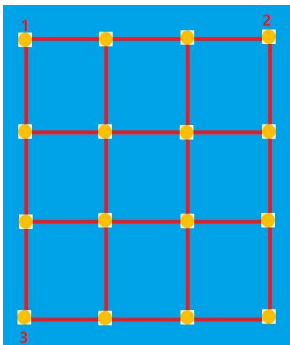
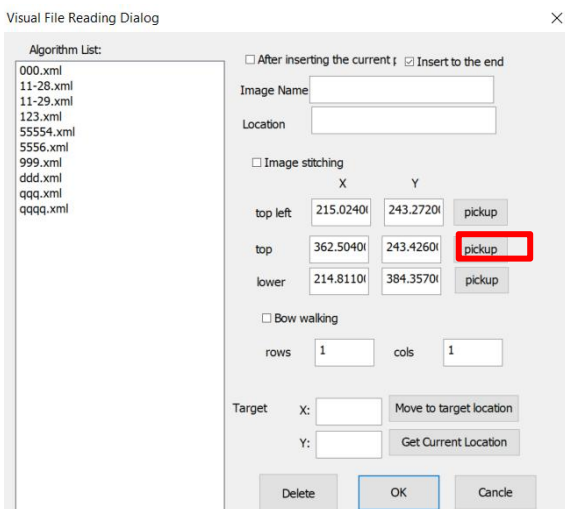
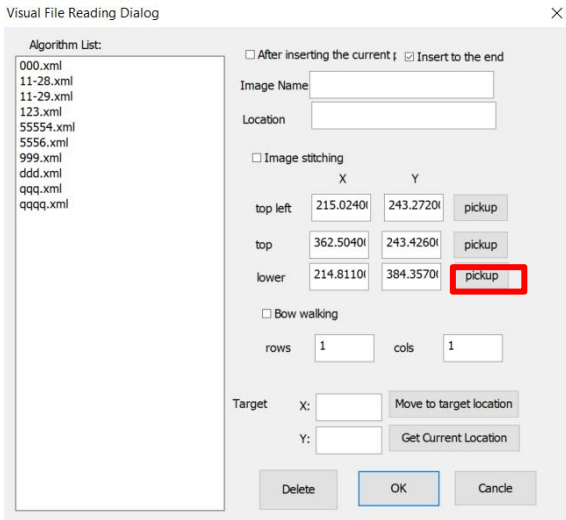

Figure2-6
Figure 2-8
Figure 2-9
When the points to be traveled are in array shape (i.e., similar rows with the same spacing and columns with the same spacing), use this way to create the CNC process as shown in Figure 2-6 below (4 rows and 4 columns):
Step 2: Move to the upper left corner position of the target, such as position 1 in Figure 2-6. Find the center. Click the pickup button behind the upper left corner to get the current position. Figure 2-7 below.
Step 3: Move to the upper right corner position of the target, such as position 2 in Figure 2-6. Find the center. Click the pickup button behind the upper right corner to get the current position. Figure 2-8 below.
Step 4: Move to the lower right corner position of the target, such as position 3 in Figure 2-6. Find the center. Click the pickup button behind the lower right corner to get the current position. Figure 2-9 below.